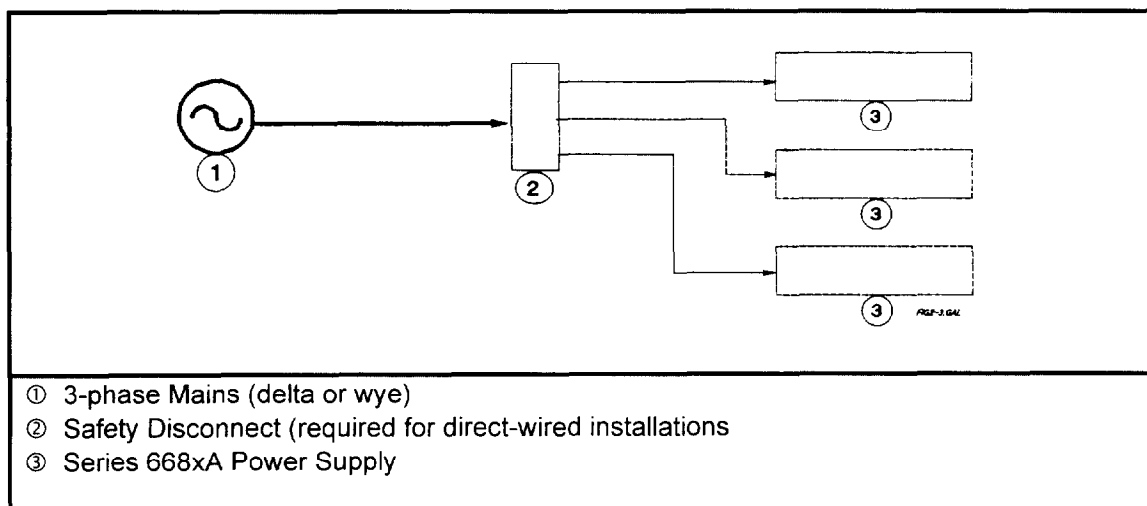

Figure 2-4. Series 668xA Overall Wiring Diagram.
The power supply requires a 3-phase power source that provides 7350 VA (6000 W) maximum. The power supply has a delta input (no neutral connection) and will accept power from either delta (triangle) or wye (star) sources. Two voltage ranges are available (see "AC Input Ratings" in Table 1-4a). *In order to maintain phase current balancing, the power source should be a dedicated line with only HP Series 668xA supplies drawing current from it. A disconnect box located near the power supply (see Figure 2-4) is recommended for all installations and is mandatory for direct-wired installations.*
- c. **Series 668xA** - Unscrew the fuse caps from the rear panel (2, Figure 2-4). Verify that the fuse is as specified on the label. Replace the fuse.